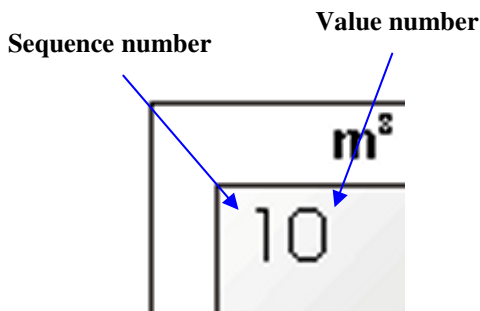

Fig 3.1b, sequence number, value number together form display sequence.
1. Display sequence, in this case “10”, default position, (the position the calculator returns to after 60 seconds of “push-button” inactivity). The digit “1” displays the sequence and the “0” displays the order in the sequence. The digits together form the display sequence “10”, see also fig. 3.1b (below).
3. Value, max. seven (7) digits